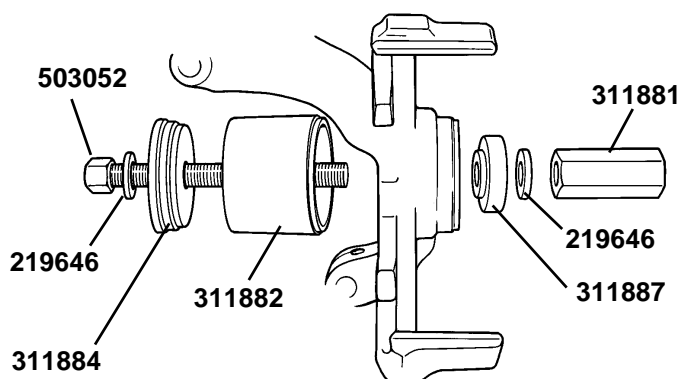
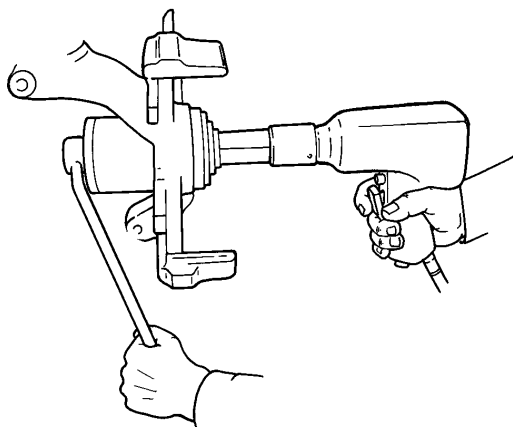

Figure 1
Figure 2
2. Assemble the tool components as shown in Figure 1. Hold the forcing screw with a wrench, and press the worn bearing out as shown in Figure 2.